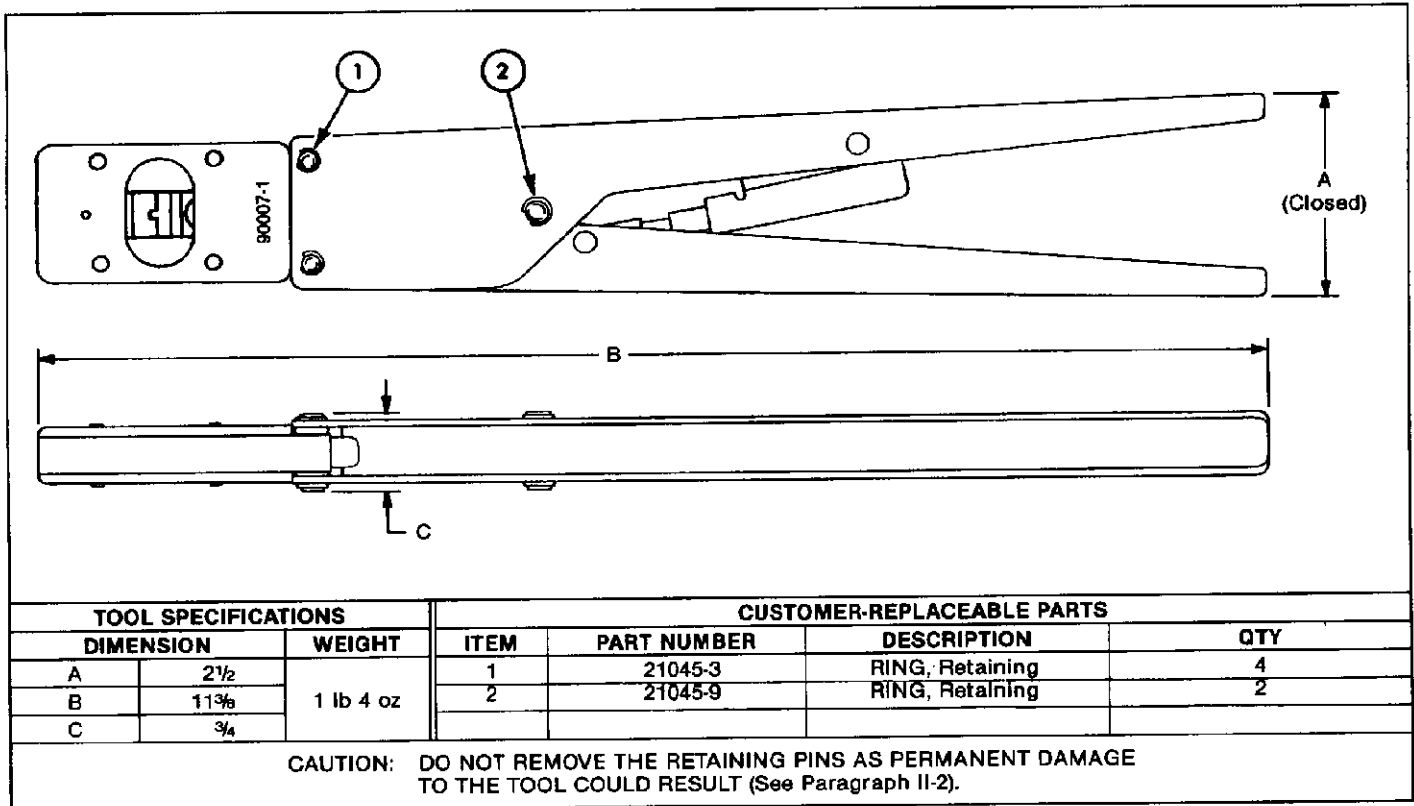

Fig. II-1
Customer-replaceable parts are listed in Figure II-1. A complete inventory should be stocked and controlled to prevent lost time when replacement of parts is necessary. When replacement parts are needed, order by part number and description.
2. Make certain all retaining pins are in place and secured with retaining rings. If replacements are necessary, refer to parts listed in Figure II-1.
Parts other than those specified in Figure II-1 must be replaced by AMP to ensure correct operation of the tool. When repair is necessary, return the tool with a written description of the problem to: